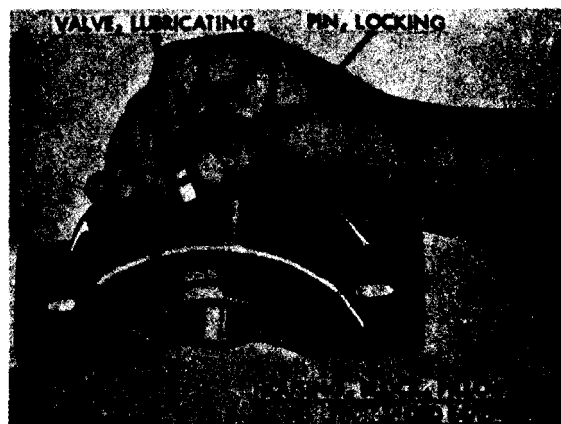

Figure 506. Removing lubricating valve, adapter, and locking pin
- (1) Loosen and remove lubricating valve and adapter from pillow block housing (fig. 506). Invert pillow block to remove locking pin.